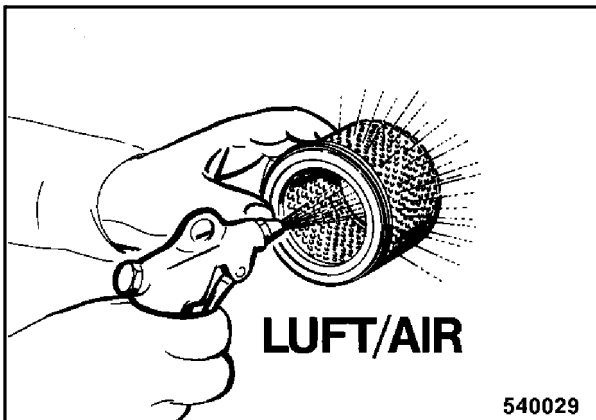

Fig. 5
- In case of dry fine dust blow the filter cartridge out from inside to outside with dry, clean pressure air (Fig. 5), (max. 6 bar).